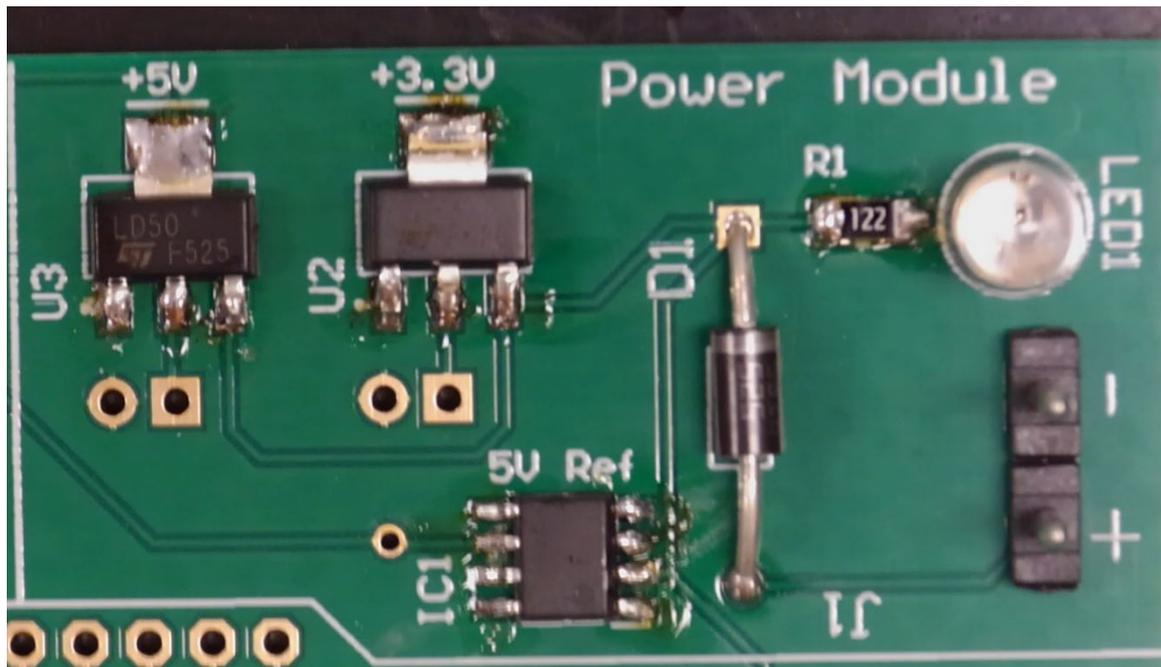

Figure 16: Assembled power module.
- 6.5. Your power module should now look like Figure 16